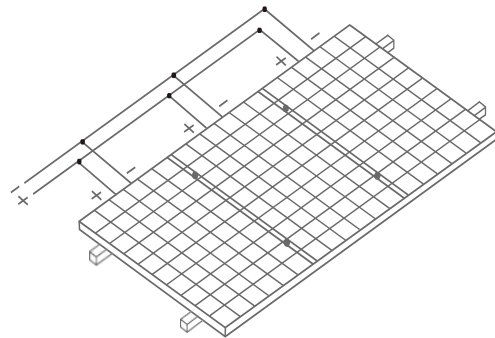

Figure 21 Connection in parallel
- When connected in parallel, the output current of the whole string of modules is equal to the sum of the current of each branch module or module string (the parallel connection mode is shown in Figure 21). Each string of modules shall be equipped with a fuse. The reference formula for the maximum number of modules in parallel connection: maximum protective current/(1.25 \* short-circuit current). Please refer to the national or regional or local specifications for details.